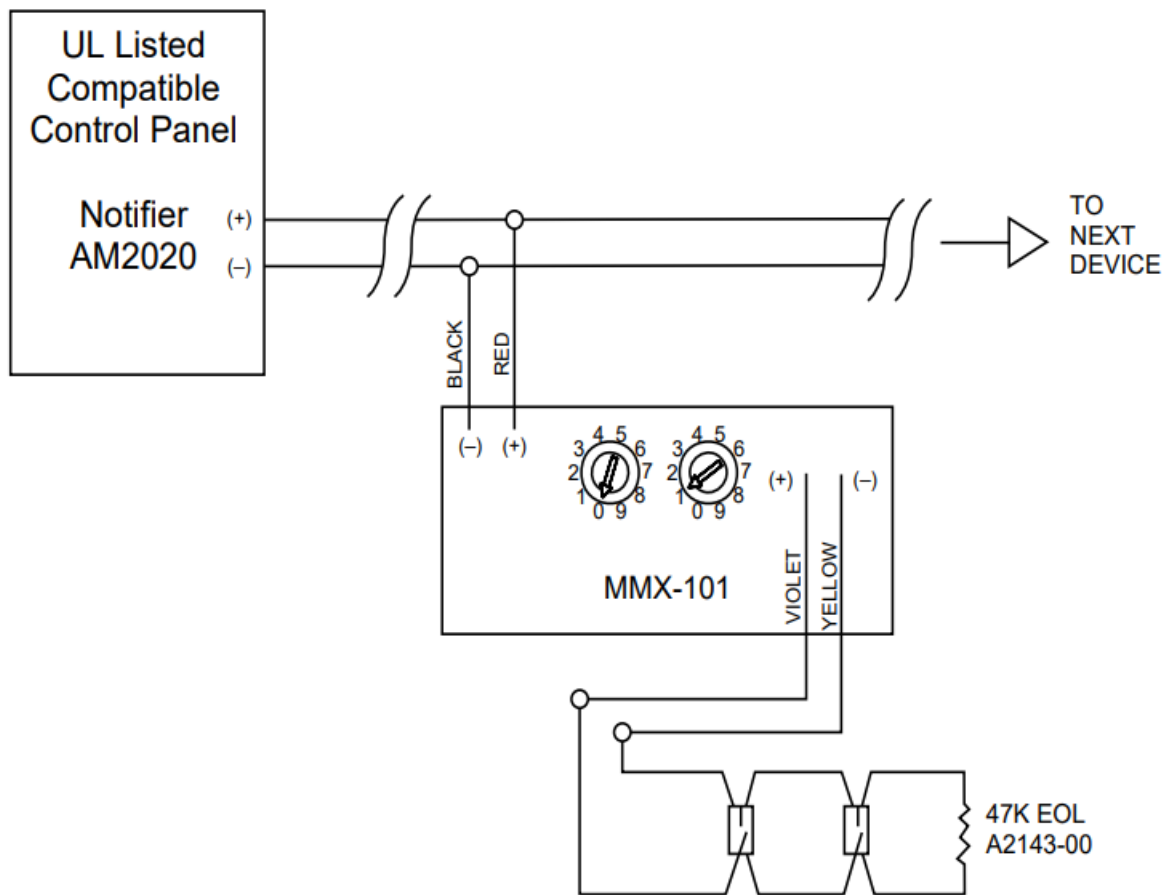

Figure 2.
1. Connect the red and black wires to the positive (+) and negative (–) loop power leads of the control panel signaling line circuit (SLC), as indicated in Figure 2.